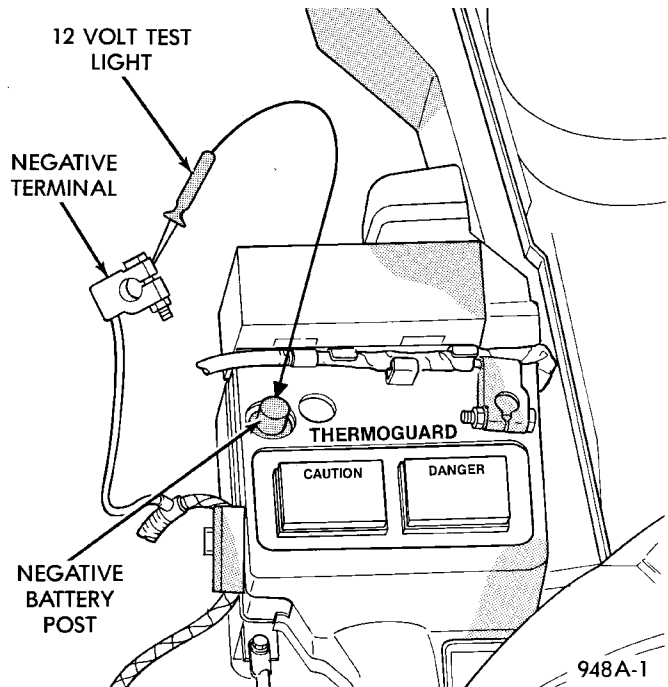

Fig. 6 Ignition OFF (IOD) Test
- (3) Connect a 12 Volt test lamp, with a cold resistance of 5-7 ohms, between the battery negative cable clamp and the negative post (Fig. 6). If test lamp goes out system is OK. If test lamp lights and stays ON, go to Test Lamp Stays ON procedure.